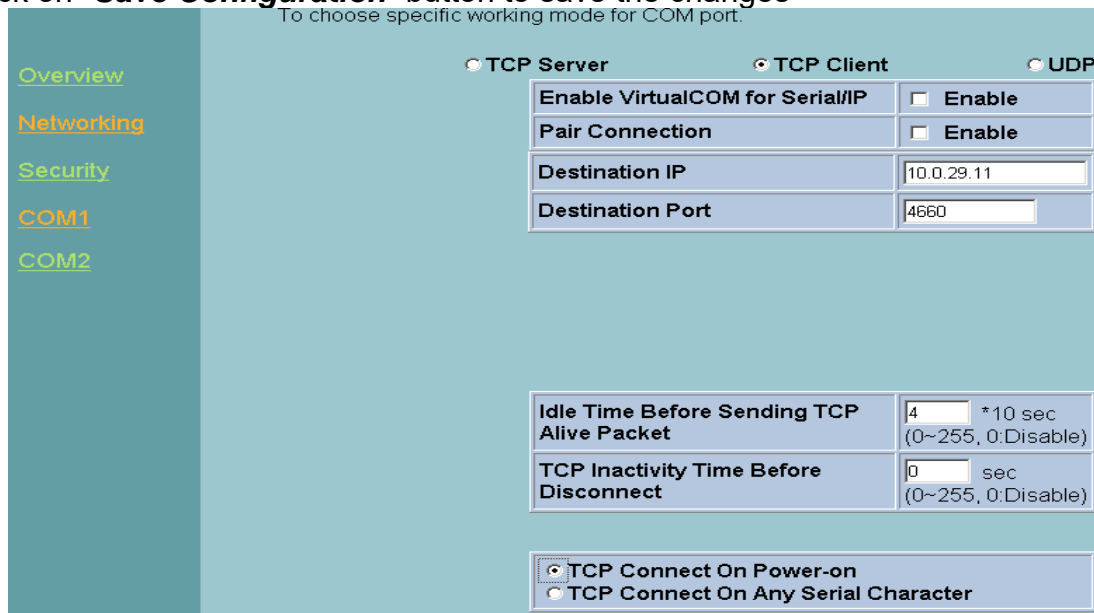

Fig. 26. Com1 setup-TCP client
- ➔ Configure GW312/GW315 as a TCP client. For example, the destination IP is 10.0.29.11, and the destination port is 4660 (Fig. 26)